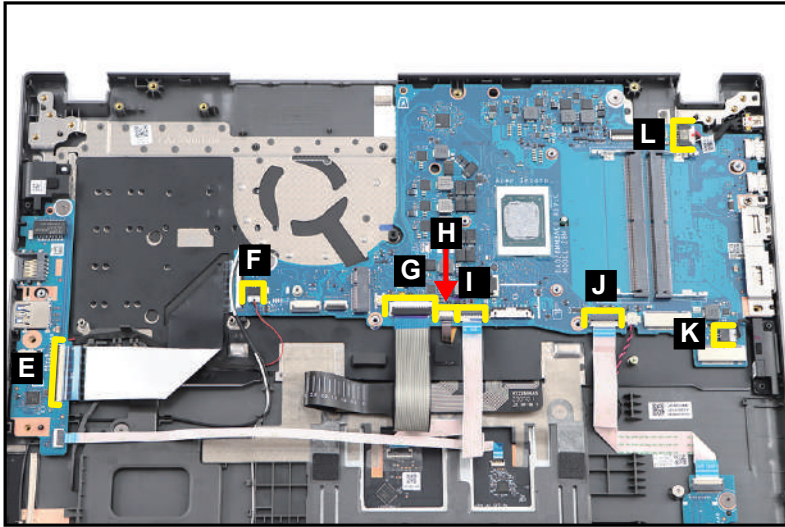

Figure 3-63. Mainboard Removal
4. Disconnect the USB board FFC from the USB board connector (E) (Figure 3-63).
5. Disconnect the right speaker cable from the mainboard connector (F) (Figure 3-63).
6. Disconnect the keyboard FPC from the mainboard connector (G) (Figure 3-63).
7. Disconnect the keyboard backlight FPC from the mainboard connector (H) (Figure 3-63).
8. Disconnect the touchpad FFC from the mainboard connector (I) (Figure 3-63).
9. Disconnect the card reader board FFC from the mainboard connector (J) (Figure 3-63).
10. Disconnect the left speaker cable from the mainboard connector (K) (Figure 3-63).
11. Disconnect the DC-IN cable from the mainboard connector (L) (Figure 3-63).